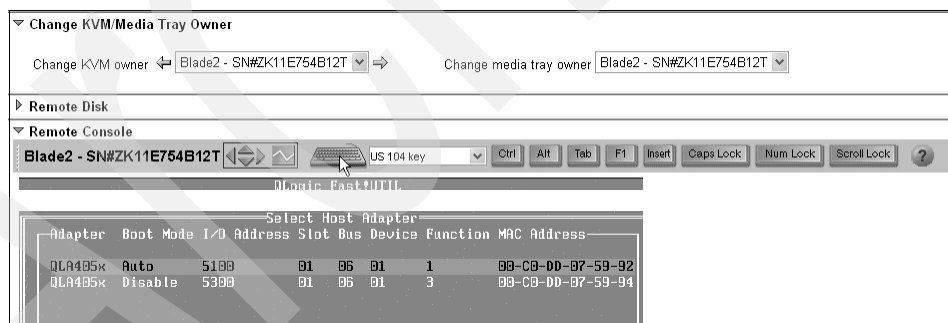

Figure 9-64 Configuring a port through the Remote Control session on the Management Module
- ▶ You only ever see a maximum of two ports on the QLogic FastUTIL display, as shown in Figure 9-64. This is because you can only ever have one iSCSI HBA adapter with two initiator ports on a Blade server.
- ▶ Just like the xSeries server, you can configure an additional initiator HBA port in a Blade server from either the BladeCenter’s Keyboard-Video-Mouse (KVM) console, or from a Remote Control session on the Management Module. Note that the Remote Control session on a Management Module has a different appearance and works in a slightly different way than the Service Processor on an xSeries server. An example is shown in Figure 9-64.